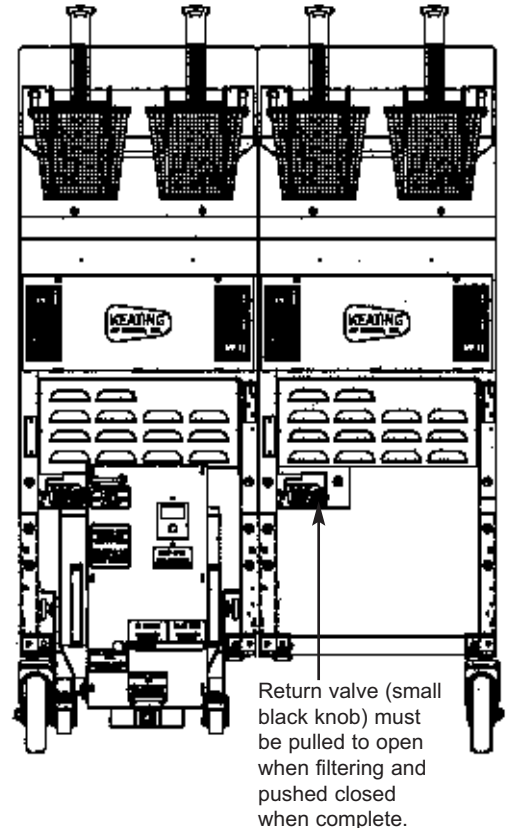

FIGURE 7.
9. Turn pump switch to the "OFF" position. Close return valve by pushing in the small black knob completely, after turning OFF the pump switch (for units with more than one fryer or central filter). See Figure 7.